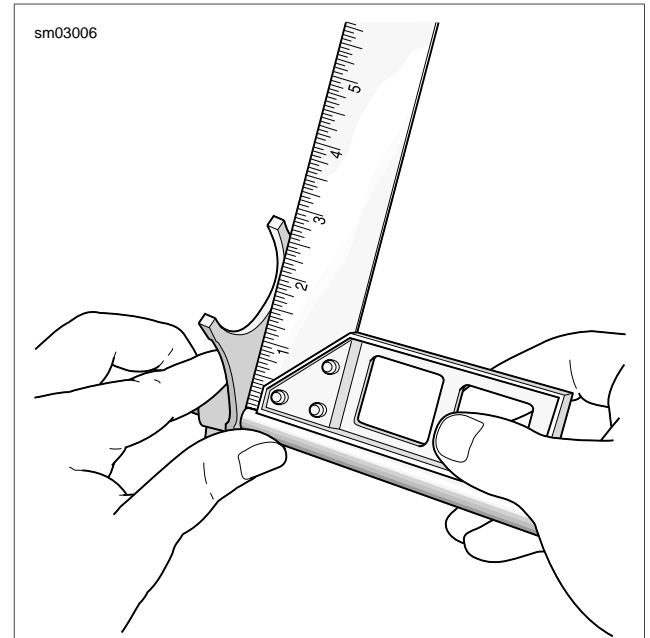

Figure 7-27. Checking Fork
7. See Figure 7-27. Using a small carpenter's square, verify the shift forks are square. If shift fork does not rest directly on the square, then it is bent and must be replaced.